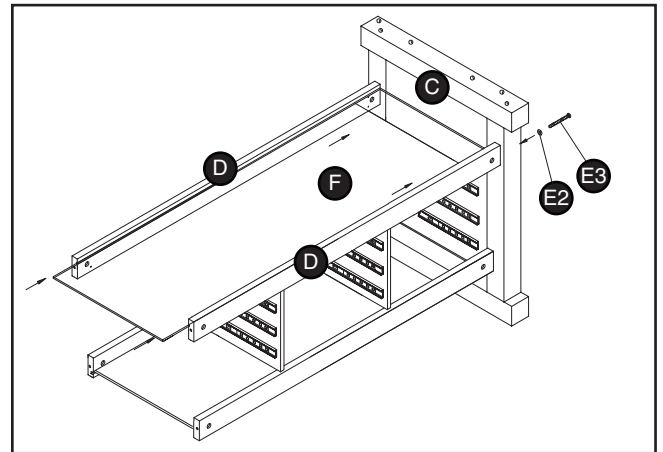

Figure 15. Upper cross panel installation.
9. Install the two upper cross braces (D) (Figure 15) into leg (C) with the same hardware and methods covered in Steps 1-7. Do not fully tighten the hardware yet.
10. Insert the upper panel (F) into the slot of the two upper cross braces (D) and into the groove of the side leg (Figure 15).